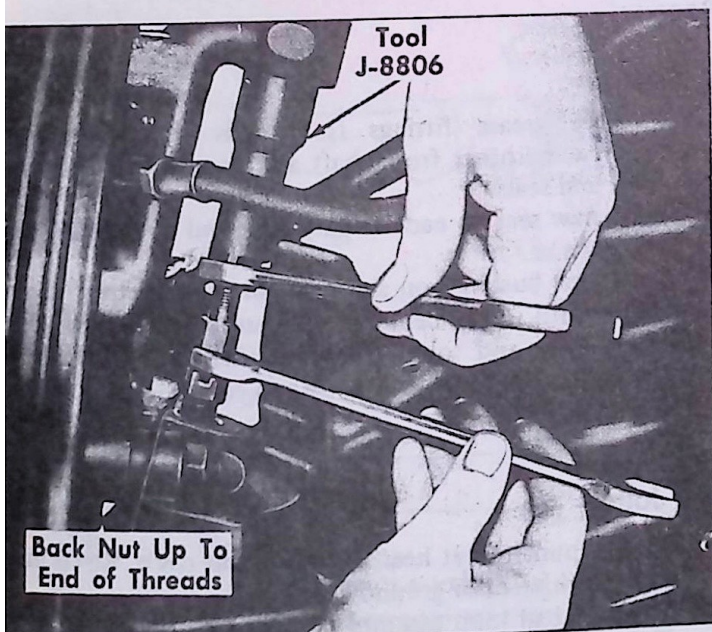

Fig. 12—Loosening Lower Ball Joint Stud (Typical)
3. Install Ball Stud Remover J-8806 (fig. 12), positioning large cup end of the tool over the upper ball stud nut and piloting the threaded end of tool on end of the lower ball
3. Loosen upper control arm ball stud in steering knuckle, using Tool J-8806 position as shown in Figure 12. Remove the nut from the ball stud and raise upper arm to clear steering knuckle.